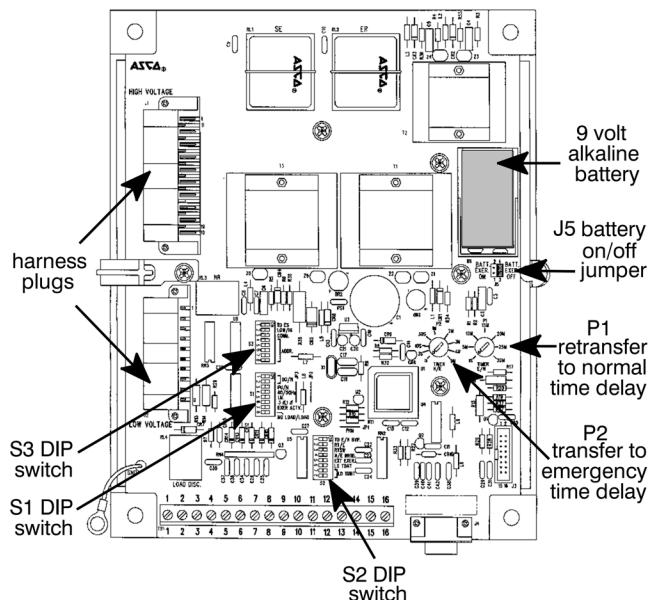
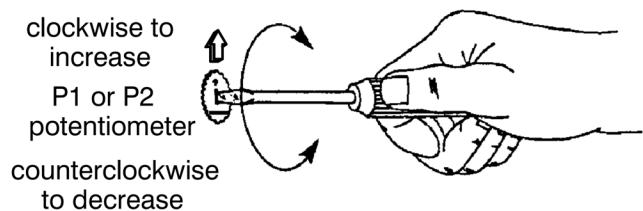
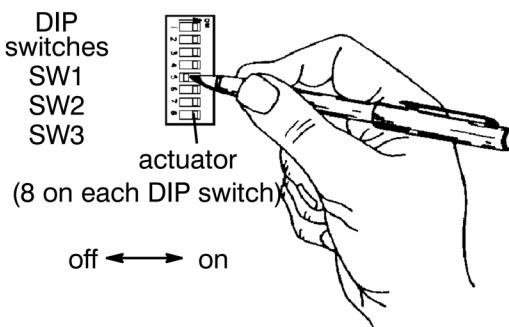

Figure 4-2. Location of potentiometers.
Figure 4-3. Changing time delay potentiometers.
Figure 4-4. Setting DIP switch actuators.
4. Locate the appropriate adjustment potentiometer or DIP switch for the setting that you want to change. Refer to Table 4-1 and Table 4-2 on page 4-1 and Figure 4-2, Figure 4-3, Figure 4-4 on page 4-2.
5. Use a small screwdriver to turn the potentiometer clockwise to increase the time delay or counter-clockwise to decrease it. See Figure 4-3.
6. Use a ball-point pen (or similar pointed tool) to slide the switch actuators left or right so they match the illustration next to the setting (left = off, right = on). Recheck the setting. See Figure 4-4.
The engine exerciser included in ASCO Series 300 Automatic Transfer Switches provides a once a week 20-minute exercise period. It occurs immediately when the **Set Engine Exerciser** push button is pressed (and held for at least 5 seconds), and then at the same time weekly thereafter. A 9 volt alkaline battery (*Duracell MN1604, Everready 522, or Panasonic 6AM6*) is furnished and installed in the controller to maintain the setting. The battery jumper block must be shifted to the ON position. See Figure 4-2 on page 4-2.